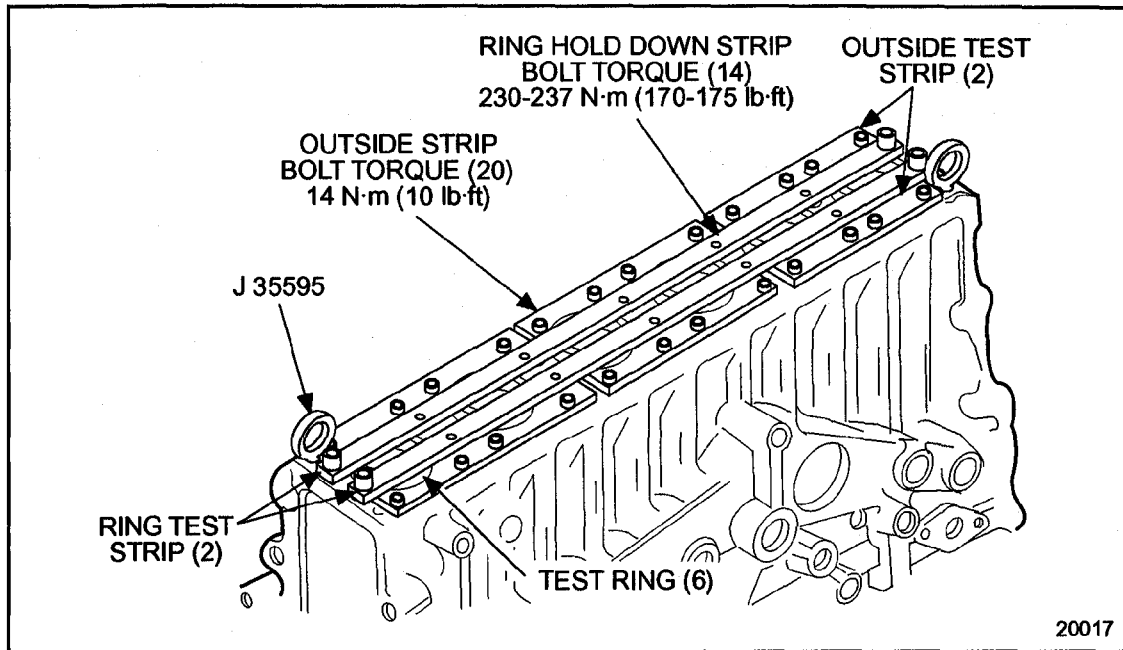

Figure 1-10 Cylinder Block Test Deck Plate Installation
2. Install two metric eye bolts, J 35595, in the head bolt holes at opposite ends of the block. See Figure 1-10.
3. Install the cylinder block test strips and rings. See Figure 1-10.
4. Install the cylinder block test strips and rings. See Figure 1-10.